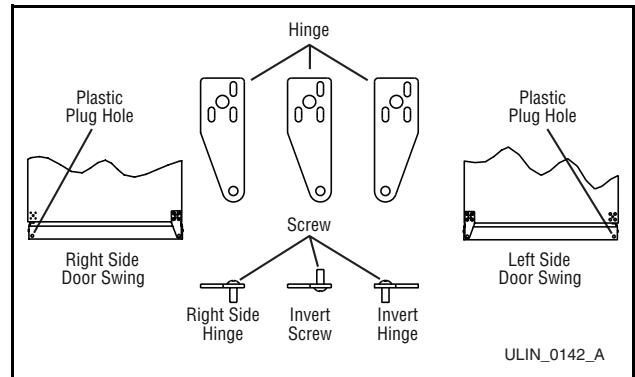

Figure 43
- Remove plastic hole plug from door handle and relocate on opposite side (**Figure 43**).
- Remove pivot screw from top hinge, invert screw and reinstall pivot screw in top hinge (**Figure 43**).